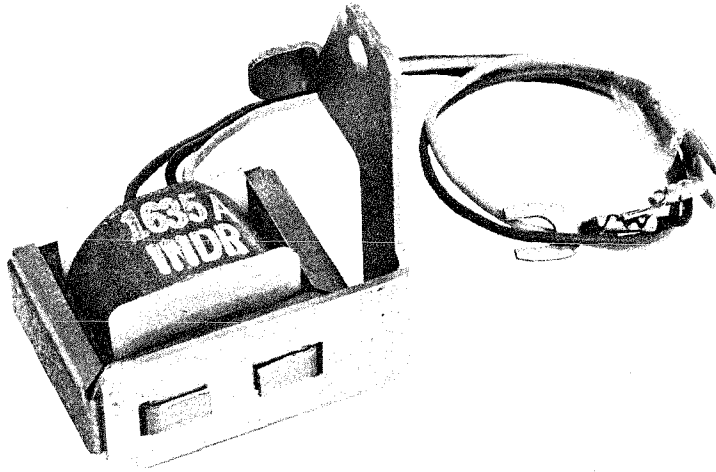

Fig. 13 — 1635A Inductor
If no ringer is in place, the 1635A inductor must be used for identification. (See Fig. 13 and 14).
**3.13** Where no ringer is used with a 701 type telephone and tip-party identification is required, a 1635A inductor shall be installed in the Princess set as shown in Fig. 13 and 14. The inductor is ordered separately. The procedure for installing is as follows: